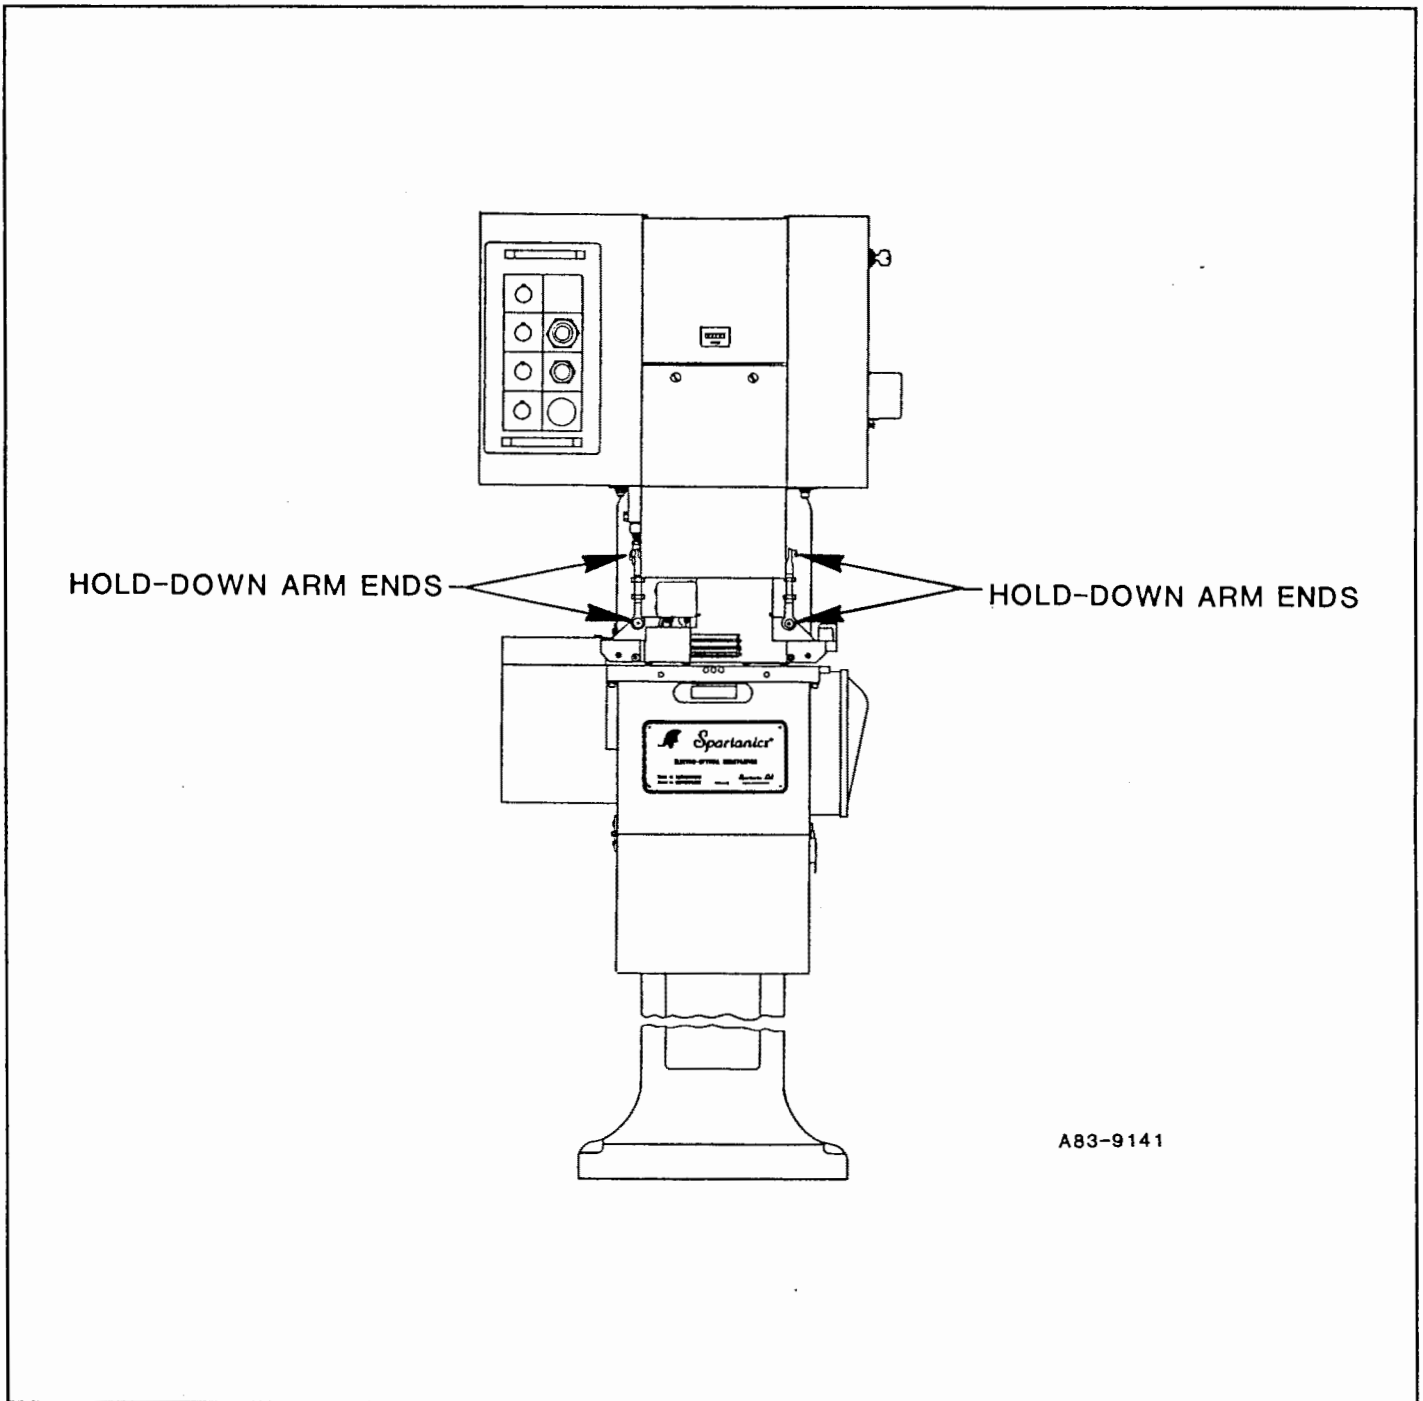

Figure 7.3 A
1. Apply a light coat of machine oil to the ends of the hold-down arms. See Figure 7.3 A.